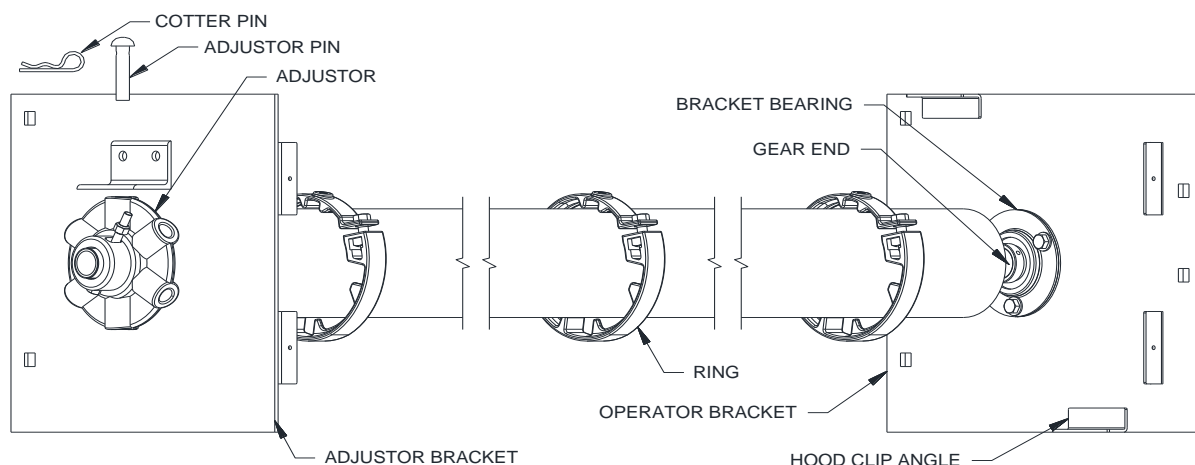

Figure 6.4– Brackets and Barrel Prior to Installation (M100 fire shutter brackets shown)
9. Locate the brackets. Determine the "operator" and "adjustor" brackets by referring to **Figure 6.4**. The "operator" bracket may vary significantly based on the operation of the door. The "adjustor" bracket will contain a label with spring adjustment instructions.